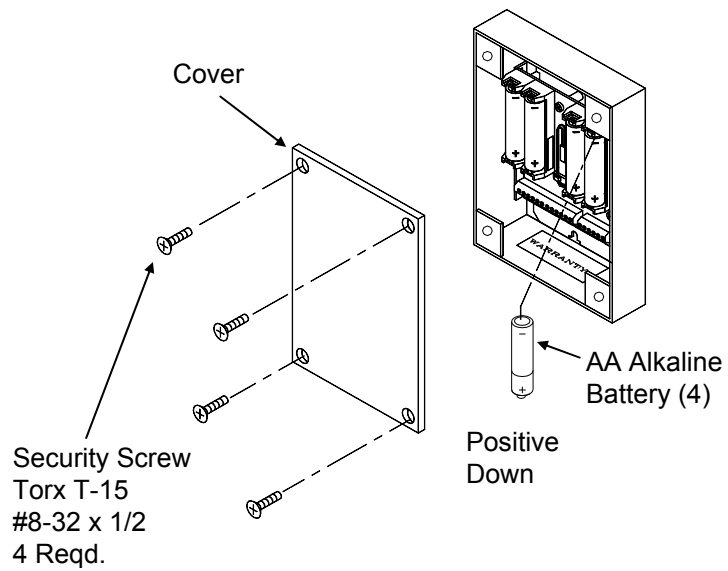

Figure 8 Extreme Weatherized Wall Mount System
Step 1 Unscrew the four Security Screws and remove the Cover (Figure 8).